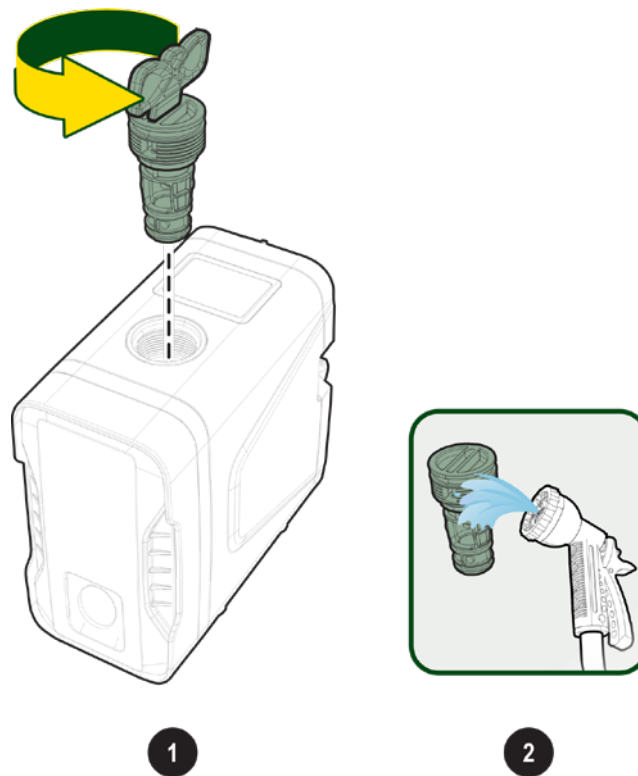

Fig. 22 Cleaning non-return valve
- using the key accessory, remove the cap (see **Fig. 22 Cleaning non-return valve**);